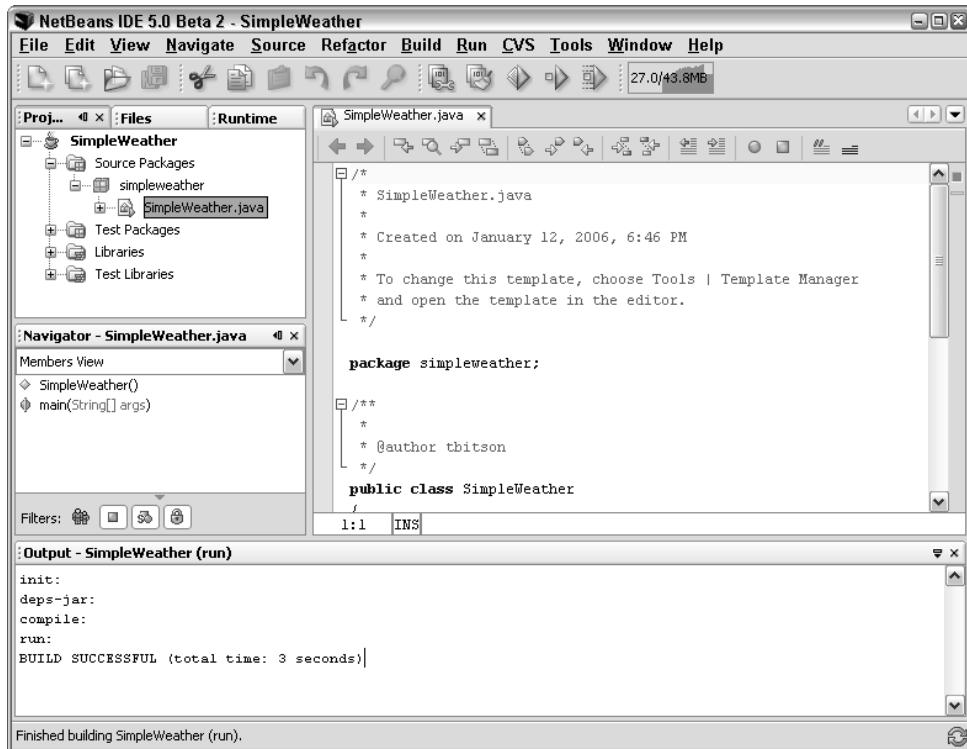

FIGURE 4-12: Project window after creating the new SimpleWeather project.
11. NetBeans will now create a new project for you with a default source code file. If NetBeans didn't automatically open your project, go ahead and select File  $\Rightarrow$  Open Project and select your new project. It should look similar to Figure 4-12.
It's a bit harder on a Mac. You'll have to use the manufacturer's utilities to get the port name. If you use a Keyspan USB adapter, the installer put a utility in your applications folder named `Keyspan Serial Assistant`. Launch it to display the names of all the adapters it found. If you click the disclosure triangle, it will show you the name of the port(s) for that adapter as shown in Figure 4-12.